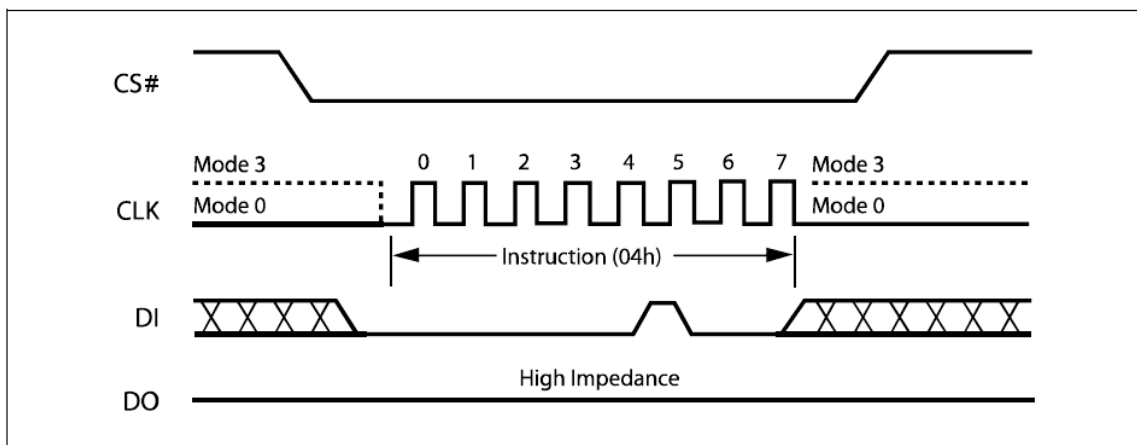

Figure 9. Write Disable Instruction Sequence Diagram
The Write Disable instruction (Figure 9) resets the Write Enable Latch (WEL) bit in the Status Register to a 0 or exit from OTP mode to normal mode. The Write Disable instruction is entered by driving Chip Select (CS#) low, shifting the instruction code “04h” into the DI pin and then driving Chip Select (CS#) high. Note that the WEL bit is automatically reset after Power-up and upon completion of the Write Status Register, Page Program, Sector Erase, Half Block Erase (HBE), Block Erase (BE) and Chip Erase instructions.